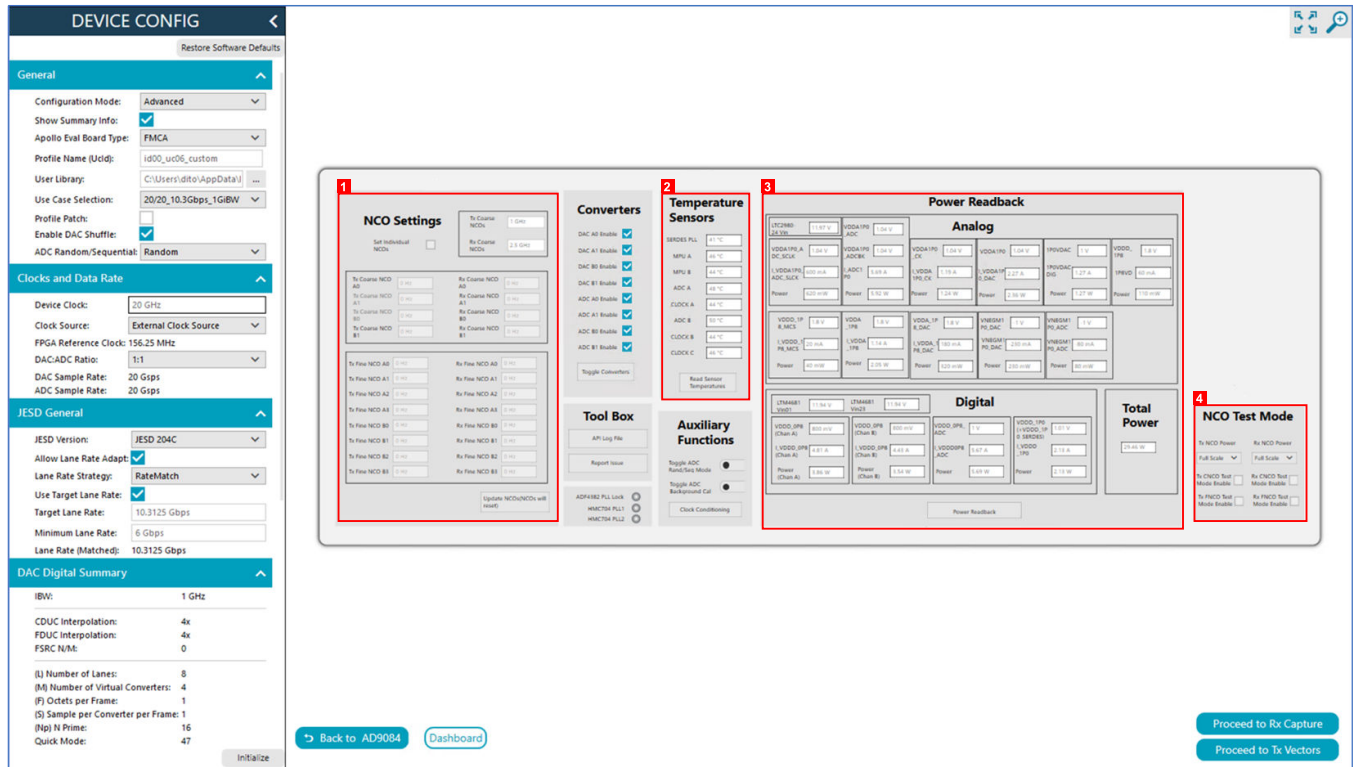

Figure 23. Dashboard
3. Click **Power Readback** to populate the **Power Readback** fields shown in **Figure 23**. The numbers shown in **Figure 23** are for illustration only; real power numbers depend on the configuration. For board versions prior to the AD9084-FMCA-EBZ Revision C, several of the fields show as being zero, and the **Total Power** number does not include power from all domains.
- c. Select the **Desired Frequency** for the DAC. Note that this frequency is offset (shifted) by the numerically controlled oscillator (NCO) frequency set in the **Dashboard** (see Figure 23).
- From the **Dashboard** view (see Figure 23), set the NCO frequency within the **NCO Settings** area to the desired frequency to mix with the baseband signal.